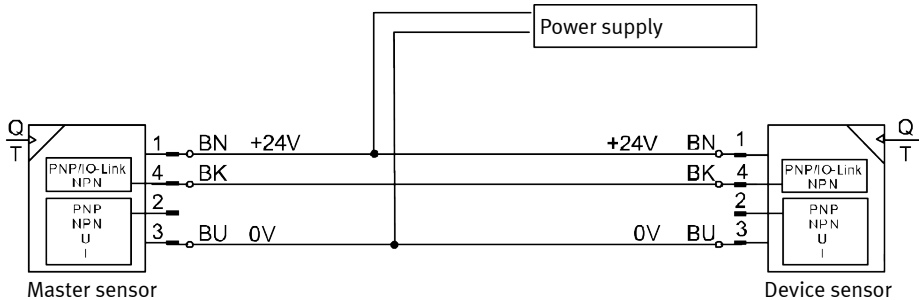

Fig. 10: Replicating parameters, using as an example SFAW-...PNLK-.../SFAW-...-PNVBA-...
- The Master sensor is connected to the Device sensor → Fig. 10.